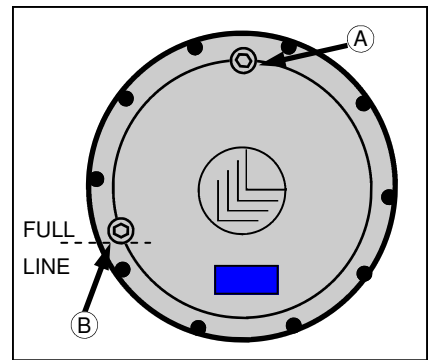

FIG 115-1
**OIL LEVEL**– Each wheel hub should maintain a proper oil level at all times. Less than that would limit lubrication and over full would cause overheating and damage. To check the oil level, position the hub so one of the face plugs is positioned at 12 O'clock (fig. 115-1, item A). The other plug will be either at 8 O'clock (fig. 115-1, item B). (When positioned correctly the arrows in the center of the hub should make an "L".) Remove the lower plug; if no oil comes out, the oil level is too low. Check wheel hub oil level every 100 hours.
To change the wheel hub oil, position the plugs so that one is at the 6 O'clock position, and the other is between the 2 and 3 O'clock positions. Remove the bottom plug to drain the oil. Once all of the oil is drained, rotate the hub so that the plugs are in the filling position (fig. 115-1). Refill wheel hub with gear oil as described above.